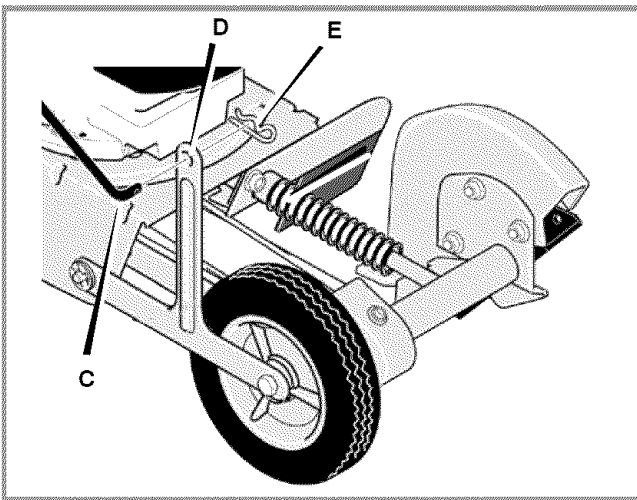

Figure 3: Lower Control Rod Assembly
- 3 Insert the end of the control rod (C), from RIGHT to LEFT, through the hole in the front wheel arm (D). Attach with the hair pin (E) found in the parts bag. See Figure 3.